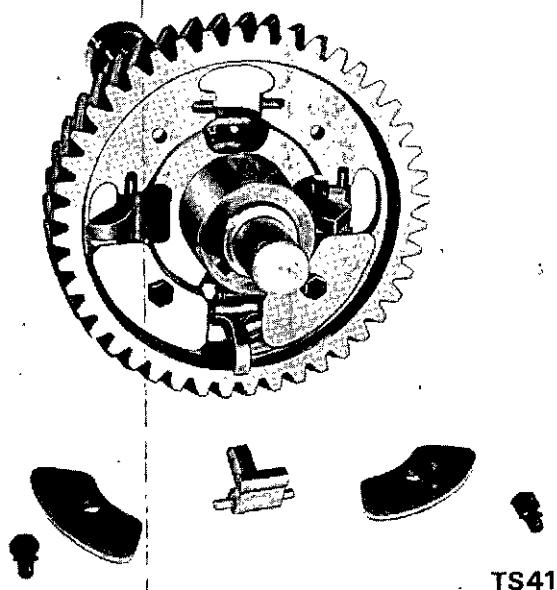

Fig. 35 Changing Governor Weights.
- (e) Turn the engine until the adjacent retainer plate is accessible. Remove setscrew and retainer plate (Fig. 35).